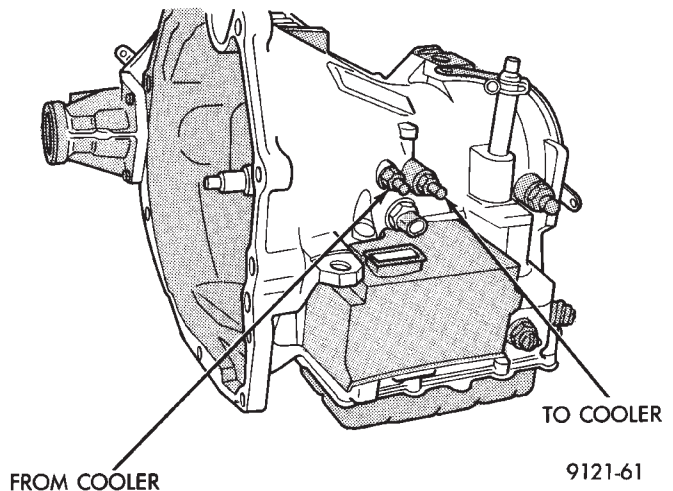

Fig. 1 Cooler Line Location
- (1) Disconnect the cooler lines at the transmission.
- (2) Using a hand suction gun filled with mineral spirits, reverse flush the cooler. Force mineral spirits into the **From Cooler** line of the cooler (Fig. 1) and catch the exiting spirits from the **To Cooler** line. Observe for the presence of debris in the exiting fluid. Continue until fluid exiting is clear and free from debris.
- (3) Using compressed air in intermittent spurts, blow any remaining mineral spirits from the cooler, again in the reverse direction.